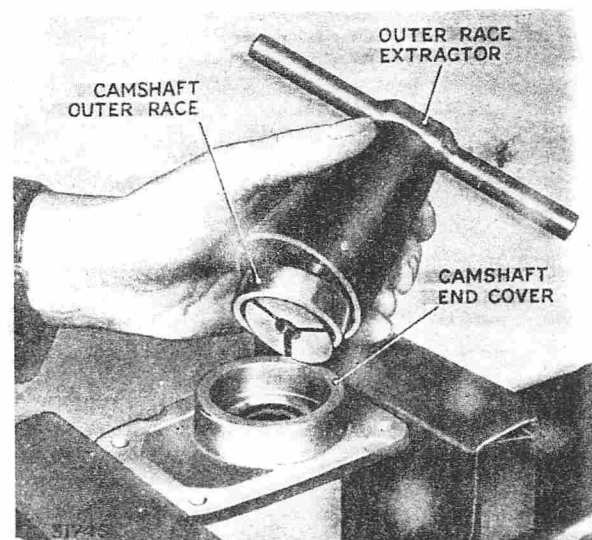

FIG. 38. REMOVING CAMSHAFT BEARING OUTER RACE
4. To remove the camshaft bearing outer race from the end cover and governor housing, use extractor tool C.A.V. No. ET.026B (Fig. 38).